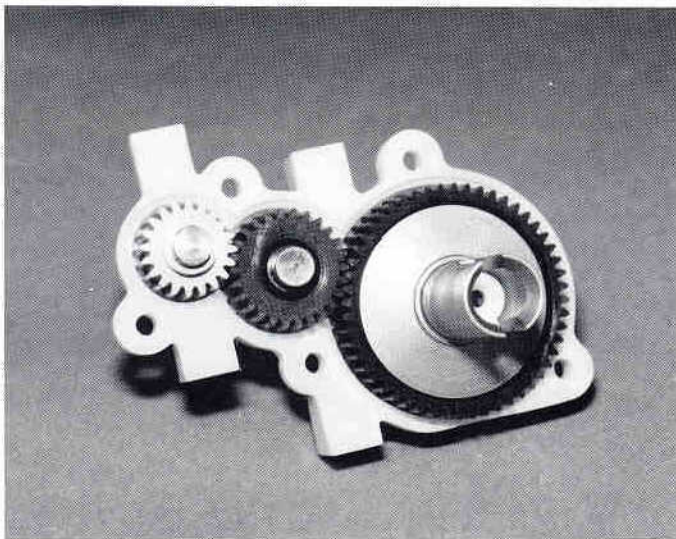

**Fig. 77**
□ **Figs. 76 & 77** Install the assembled diff into the right case half lower bearing or bushing as shown in fig. 77. **Note:** Make sure that you install the diff bolt head side through the right case half. If you install the bolt head so that it is on the driver's side of the transmission you may have a problem with the diff bolt backing off.